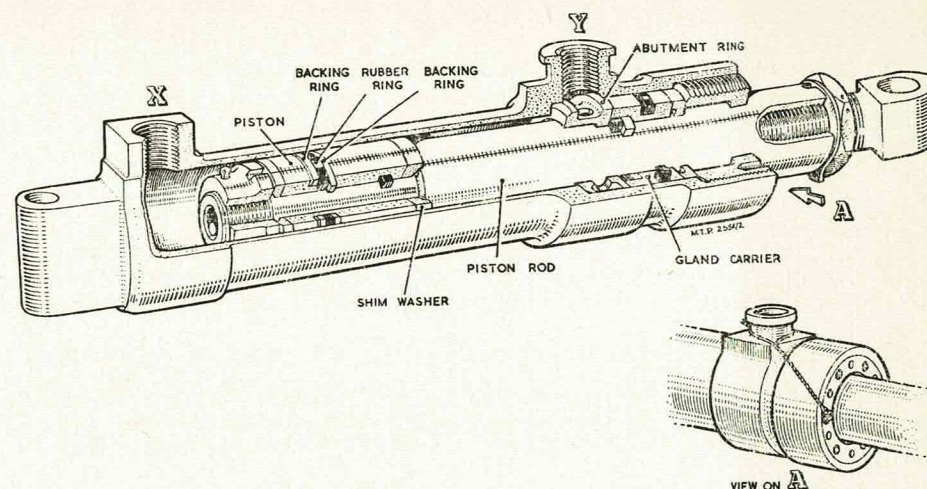

Fig. 2. Main undercarriage door lock jack 5268, Mk. 2
Description (fig. 2)
5. With the system pressure applied at Y (fig. 2) the jack is fully retracted. Simultaneous application of system pressure at X extends the jack as a result of the difference in effective areas between the full and the annular faces of the piston. Retraction of the jack is effected by releasing the pressure at X.
- (1) Fit new sealing rings throughout, do not overstretch the rings. Ensure that the piston triple seal and the gland carrier double seal are assembled in their correct order (fig. 2).
- (2) Locate the shim washer (bore chamfer leading) on to the piston rod, followed by the piston (internal seal leading), and the second washer (bore chamfer outwards); secure these parts with the retaining nut and lock the nut with a new split pin. Refer to Vol. 6 if a new split pin hole is required.
- (3) Insert the piston rod into the body and fit the abutment ring (larger bore leading), the gland carrier (double seal leading), and the scraper ring (recessed face leading).
- (4) Slide the end nut over the piston rod and screw it into the body, align the grubscrew hole and fit a new grubscrew. Wirelock the grubscrew as shown in (fig. 2).